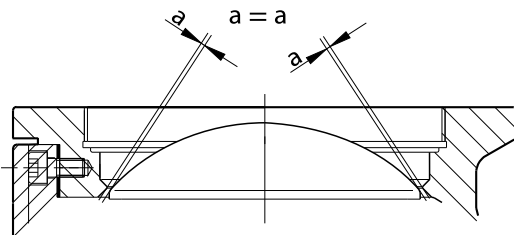

Fig.6-14 Centre ball segment
2. Ensure that the ball segment is centred with the valve body. The ball segment must not be attached with too much play or too tightly. There must be an evenly sized gap around the complete ball segment. This can be checked more precisely with a feeler gauge on the relevant shaft end (→ Fig.6-14). Set the position of the ball segment with the aid of shims. See (→ Chap6.11).